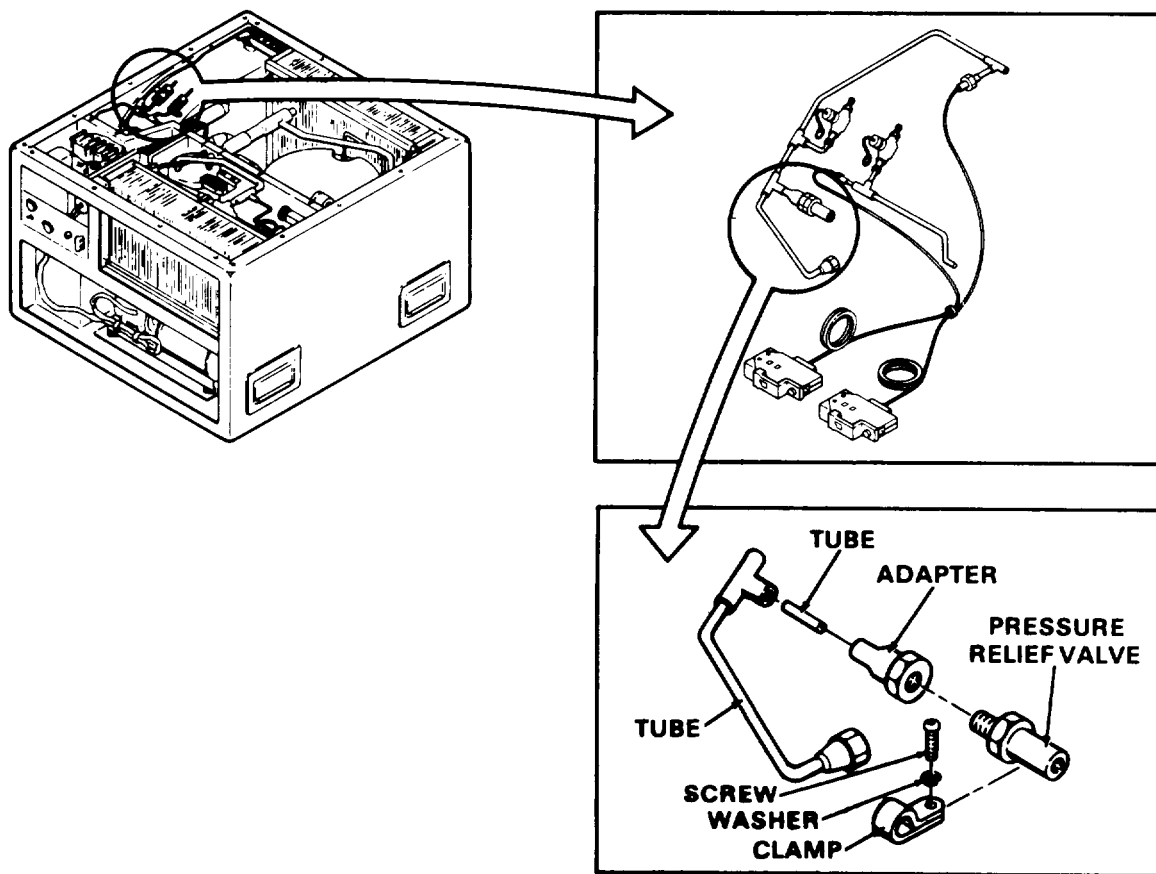

Figure 5-3. Pressure Relief Valve
(2) Refer to paragraph 6-3 and discharge the refrigerant system.
(3) Refer to figure 5-3 and remove the clamp around the pressure relief valve by removing the screw and washer that hold the clamp to the condenser fan housing.
(4) Unscrew the flare nut and remove the pressure relief valve.
(1) Refer to figure 5-3 and install the pressure relief valve by fastening the refrigerant circuit flare nut to the pressure relief valve.
(2) Using the screw and washer install the clamp that fastens the pressure relief valve to the condenser fan housing.